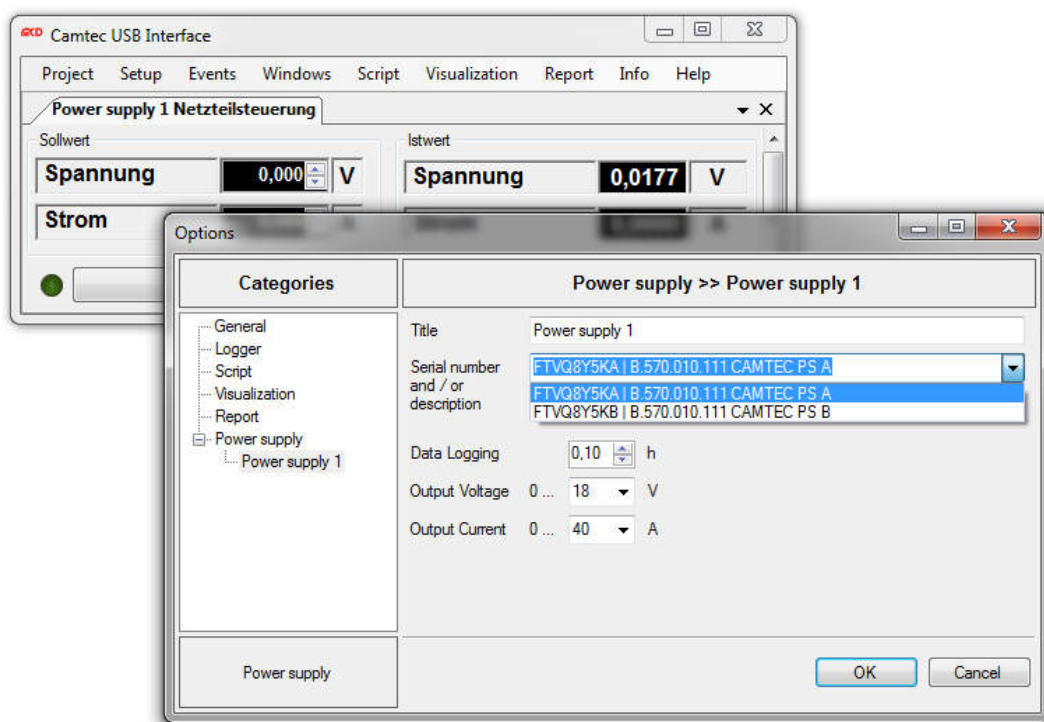

Figure 3 Setup -> Options, Ser.No. & data input of the power supply
3. If you have connected only one UI.Drive-Interface please delete a pre-set serial number accessing Setup -> Options -> Power Supply 1. If you have connected several UI.Drive-interfaces, please choose the Device A (Figure 3).
4. Set the voltage and current value to the maximum of the connected Ulreg power supply type (Figure 3).